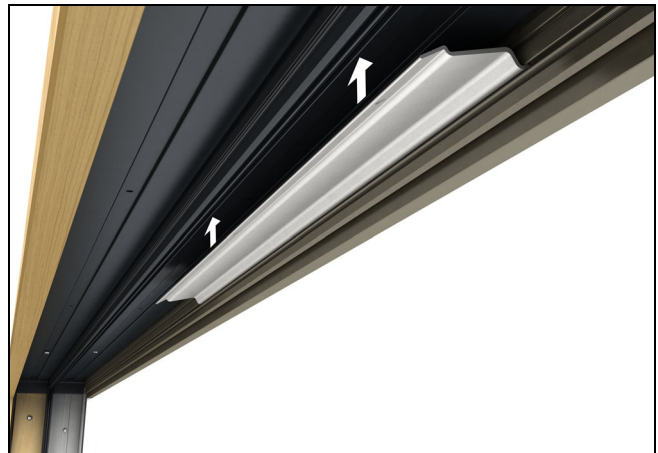

Figure 126
4. Rotate in one structural bracket with pre-drilled holes and install with three #8 x 3" black installation screws. See figure 126.